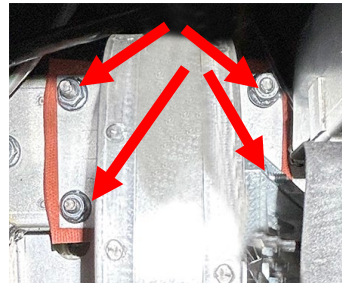

Figure 67
68. Ensure all wires are clear and reattach the blower using the four (4) nuts (see Figure 67).